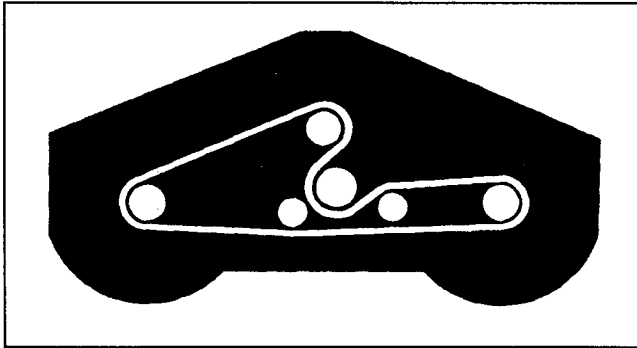

Figure 22
5. Route new belt around spindle pulleys and thru idler pulley assembly, as shown in figure 22.